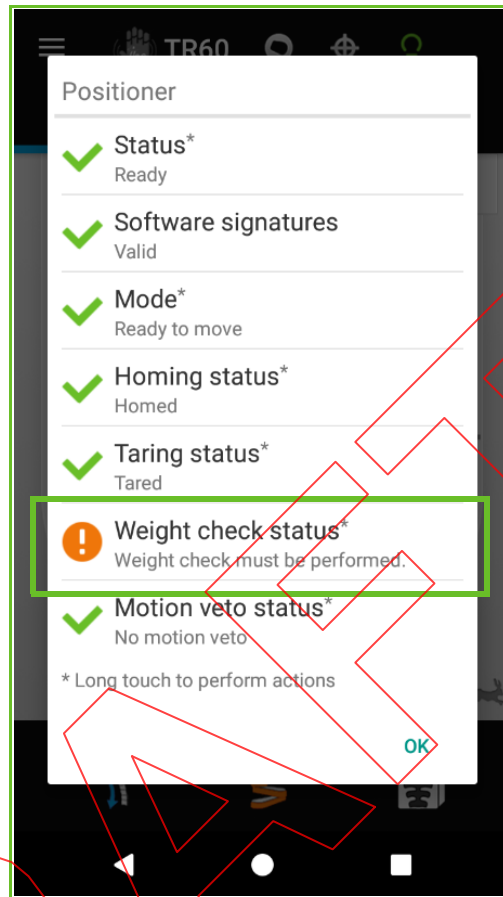

Figure 46-7. Automatic weight check - Positioner screen
1. Long touch on PPS icon in hand-pendant for the POSITIONER screen. The **Weight check status** is orange (Figure 46-7).